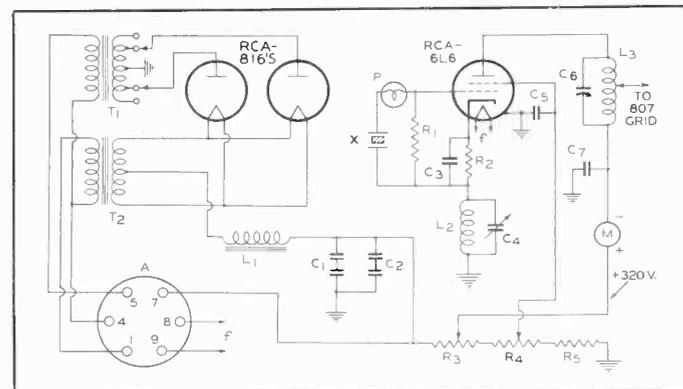

FIG. 34
The only trick in getting the "Tritet" oscillator to operate properly on the 2nd and 4th harmonics of the crystal is in the design and tuning of the *cathode tank* ( $L_2C_4$ ) shown in Fig. 34. The fourth-harmonic output is ample to drive the 807, and the second-harmonic output is several times larger than necessary. Data for the cathode coils and for the plate coils are given in tables 6, 7, and 8.
(L2, FIG. 34)
(L3, FIG. 34)
**PARTS SHOWN IN FIG. 34**